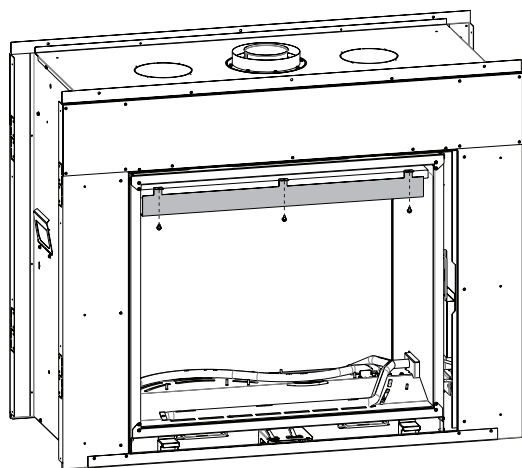

Figure 57
3. Remove the top liner bracket and top liner **See Figures 57 and 58.**